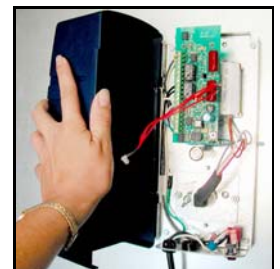

Figure 19
11. Snap cover onto the unit base. (See Figure 19)